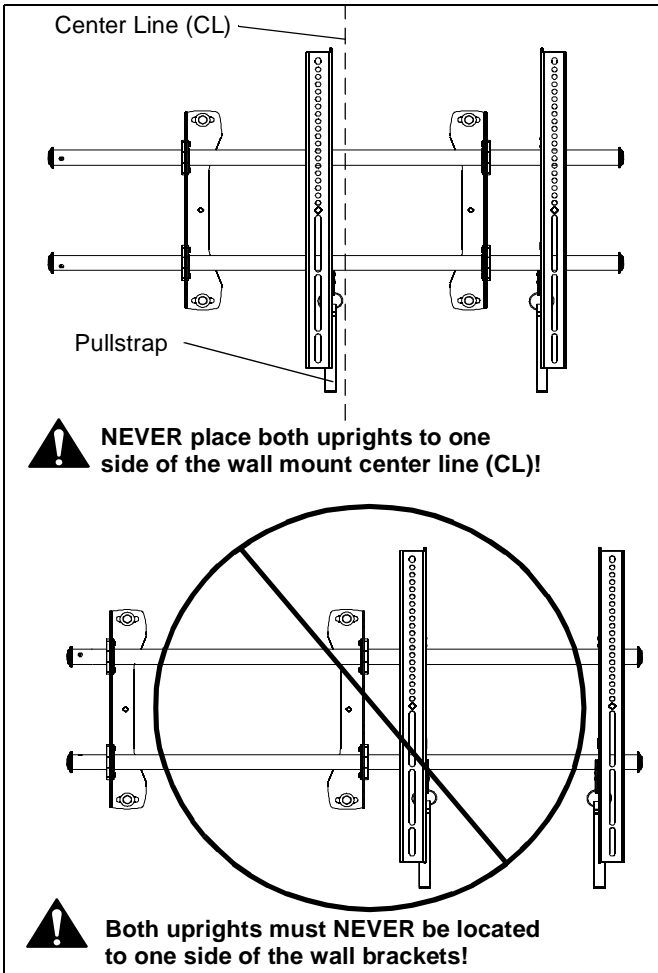

Figure 7
1. Adjust Velcro® pull strap (if necessary) so it does not extend beyond bottom of screen. (See Figure 7)
NOTE: Do NOT allow both uprights to be located on same side of wall bracket. (See Figure 7)
NOTE: NEVER place both uprights to one side of the wall mount center line! (See Figure 7)